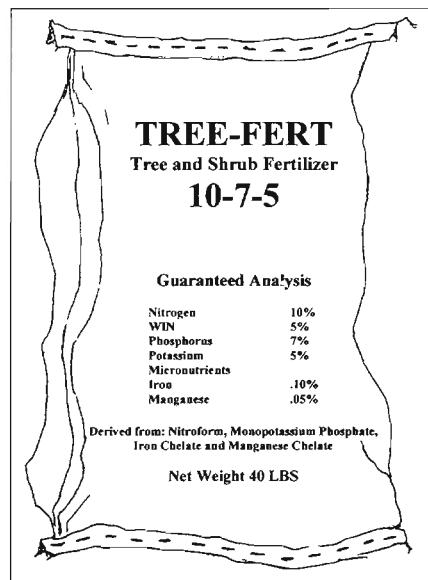

Figure 18. Sample label from a bag of all-purpose granular fertilizer.
For convenience and adequate fertilization of most woody ornamental plants, home gardeners use a complete fertilizer, one that contains all three major fertilizer materials. The law requires that every package of fertilizer be labeled to show the guaranteed minimum percentages (or grade) of the three major fertilizer nutrients. For example, a 10-6-4 fertilizer contains at least 10 percent nitrogen (N), 6 percent phosphoric acid (P), and 4 percent potash (K). Many grades of complete fertilizers are available (Figure 18).